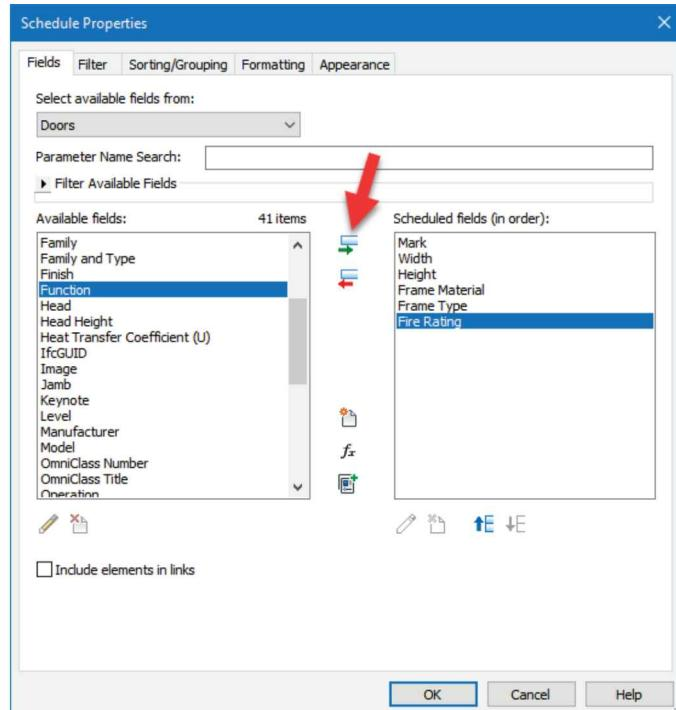

FIGURE 13-2.2 Schedule Properties; Fields tab
4. On the **Fields** tab, Add the information you want displayed in the schedule. Select the following (Figure 13-2.2):